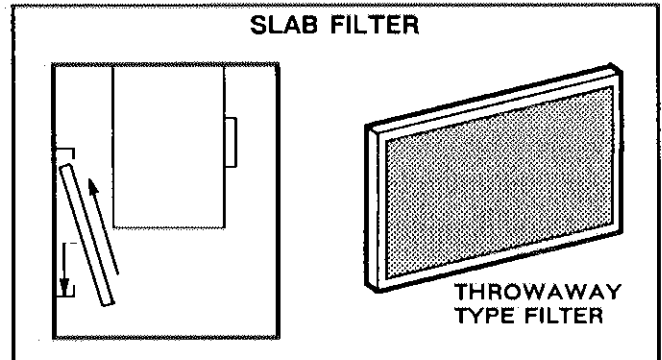

FIGURE 8
- 3- Remove filter by sliding it up and out of filter channel. See figure 8.